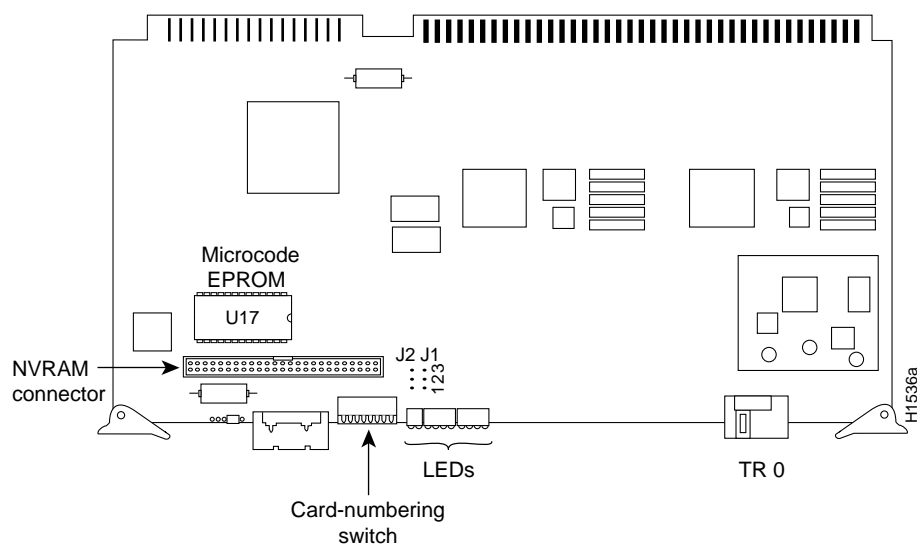

Figure 5-15 CSC-1R Token Ring Interface Card—Component-Side View
- CSC-1R Token Ring interface card, Figure 5-15